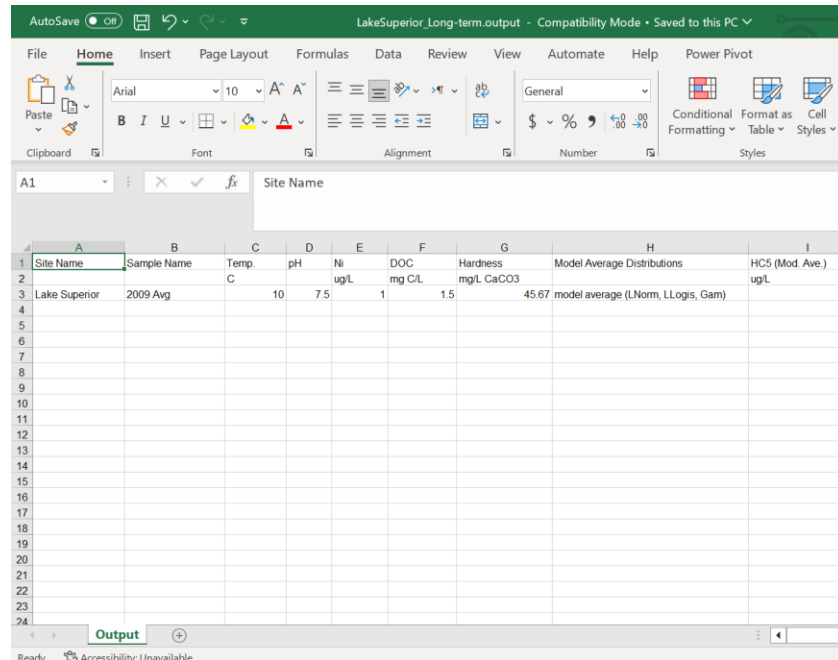

Figure 6.3. Example of the Microsoft Excel® file (*.output) produced by B.C. Ni BLM.
1. *.output: shows the water chemistry, HC₅, confidence intervals, and guidelines values (Figure 6.3).